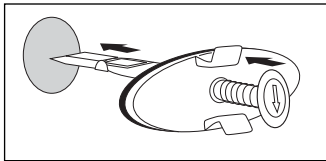

Fig. 1
- With round overflows, press and hold the roll pin so that the locking lever can be flapped in such a way that it stands in extension with the roll pin (Fig. 1).